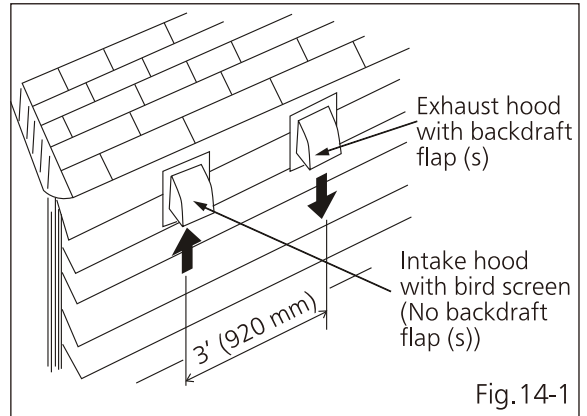

Fig. 14-1
(1) If separate hoods are used, locate them at least 3' (920 mm) apart. (Fig. 14-1)